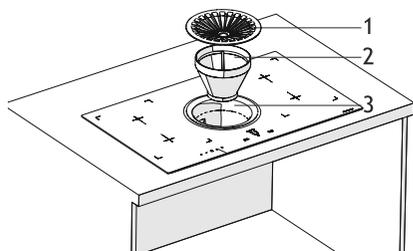

Fig. 19
4. **■** Place the appliance filter in the water container (Fig. 19 / 2)
- Place the filter cover on the filter (Fig. 19 / 1).